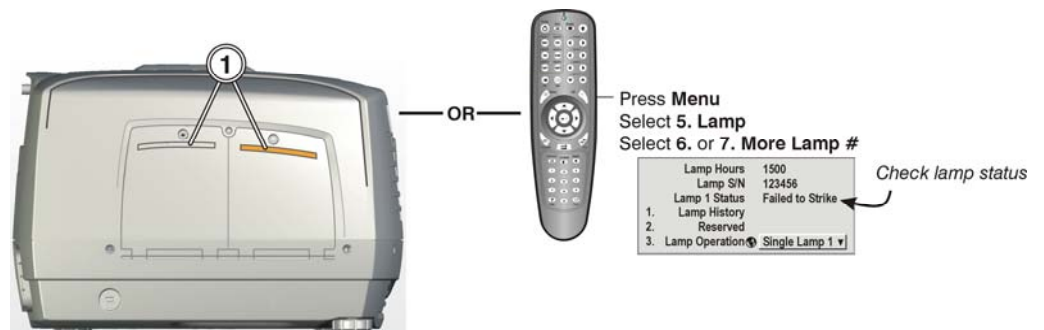
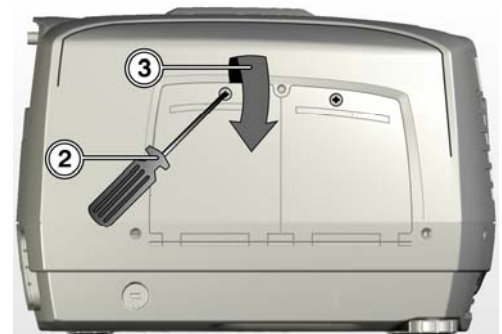

Figure 4.2.
Figure 4.3.
NOTE: The amber window on the door (Figure 4.2.) should be dim. If it “glows” then the lamp in this compartment is still on. Manually switch to the other single lamp operation mode to cut power to the lamp before replacing. (Figure 4.3)
3. Swing the lamp door open. (Figure 4.3.)